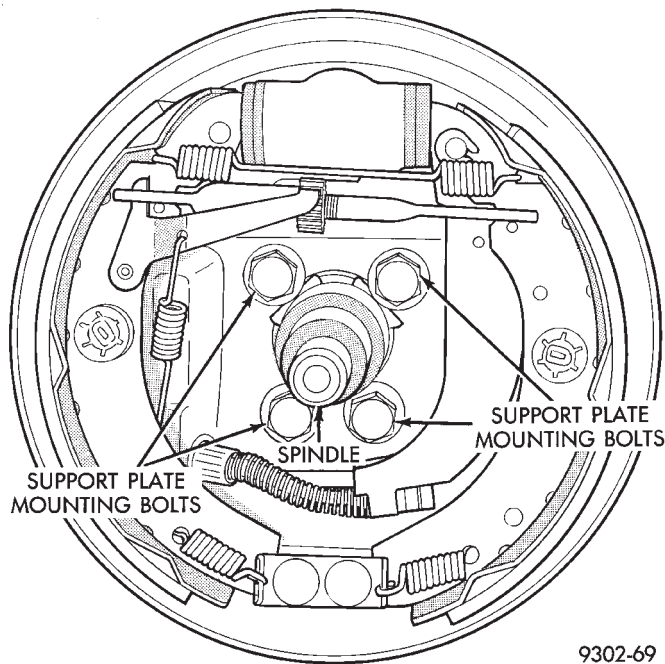

Fig. 4 Brake Support Plate Mounting Bolts
(6) On vehicles equipped with rear drum brakes. Remove the 4 bolts attaching the rear brake support plate to the rear spindle (Fig. 4). Then remove rear brake support plate with parking brake cable attached, from rear spindle.